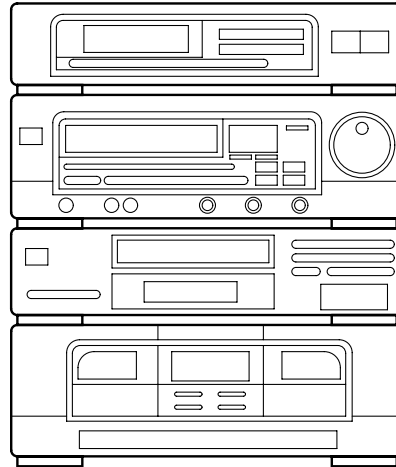

Fig. 3
- 3 Several parts of the hi-fi system shown in Fig. 3 have been mass produced using the injection moulding process.